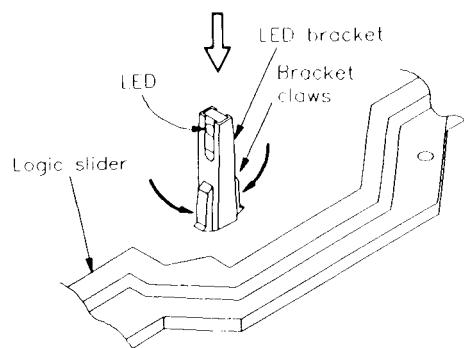

Fig. 4-15-4
4. Remove screw (A) and screw (B). (Since the screws are different each other, paying attention when replacing them.)
5. Press and bend claws of the LED bracket in direction shown by the black arrows on upper side of the mechanism assembly, and then push them in direction shown by the white arrow so that they can pass the hole (Fig. 4-15-4).
When removing or remounting, take care that the LED is not contaminated by grease or damaged by scratches. (Fig. 4-15-4)